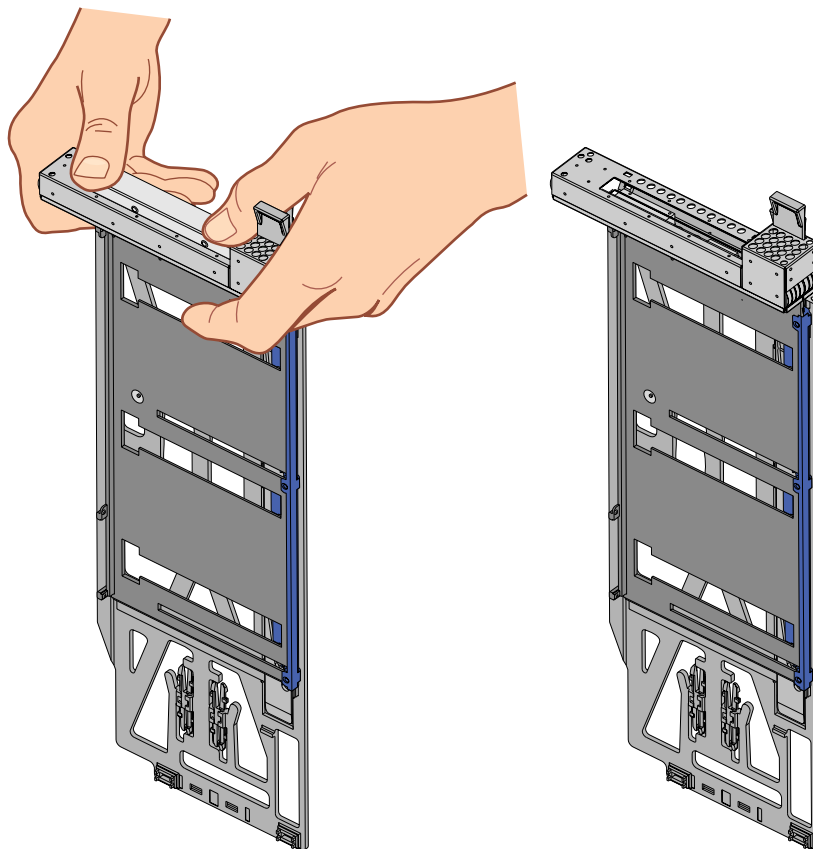

Figure 6-16 Extracting the Carrier Metal Filler Plate
4. If you are adding a card, extract the carrier metal filler plate by pushing down on it, as shown in Figure 6-16. This filler plate covers the area where your card connectors will protrude out to the rear panel of the blade.